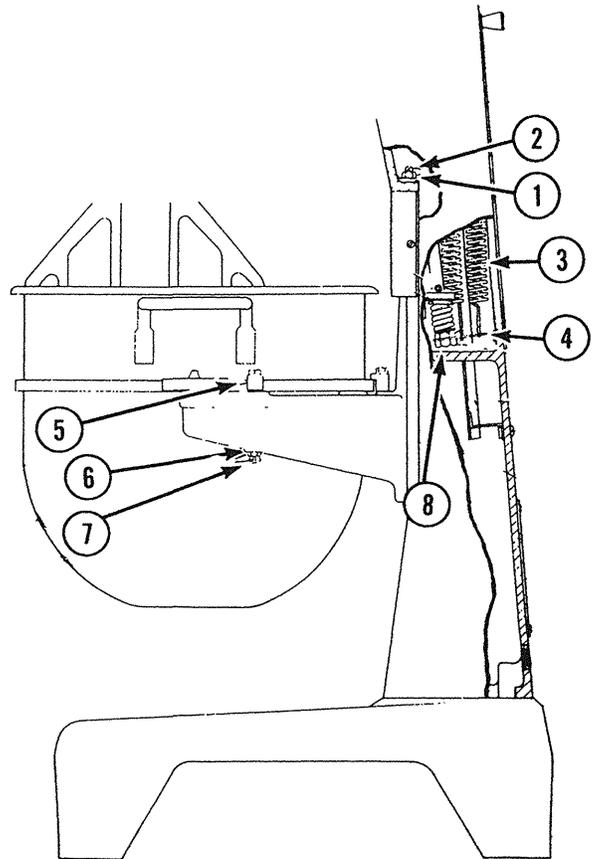

Fig. 6-7
- B. When the bowl is raised, the lift handle will pass bottom center and stop when the bowl lift rod stops against the pedestal. Spring tension on the handle may be adjusted by turning jam nuts (8, Fig. 6-7).
- B. Lower bowl lift assembly to lowest position. Loosen jam nut (1, Fig. 6-7).
- C. Use an Allen wrench to turn the stop screw (2, Fig. 6-7) until the desired clearance is reached.
- D. Lock jam nut (1, Fig. 6-7) when clearance is correct.
- (4) Unhook the two counter balance springs (3, Fig. 6-7) from the lower spring bracket (4, Fig. 6-7).
- A. The height of the bowl clamp (5, Fig. 6-7) is adjustable.
- B. It is regulated by a spring washer (6, Fig. 6-7).
- C. To change the tension on the clamp tighten or loosen stop nut (7, Fig. 6-7).